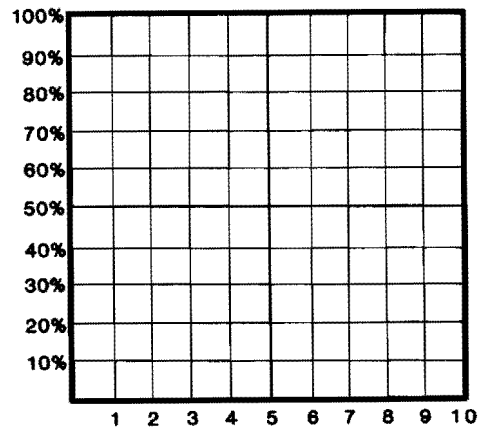

Figure 3-42 Plot the charging of the capacitor.
19. Assume that the source voltage is changed to 100 volts DC. Plot the capacitor's voltage charge in Figure 3-42 against the capacitor's charge time, for the series circuit referred to in Step 1.